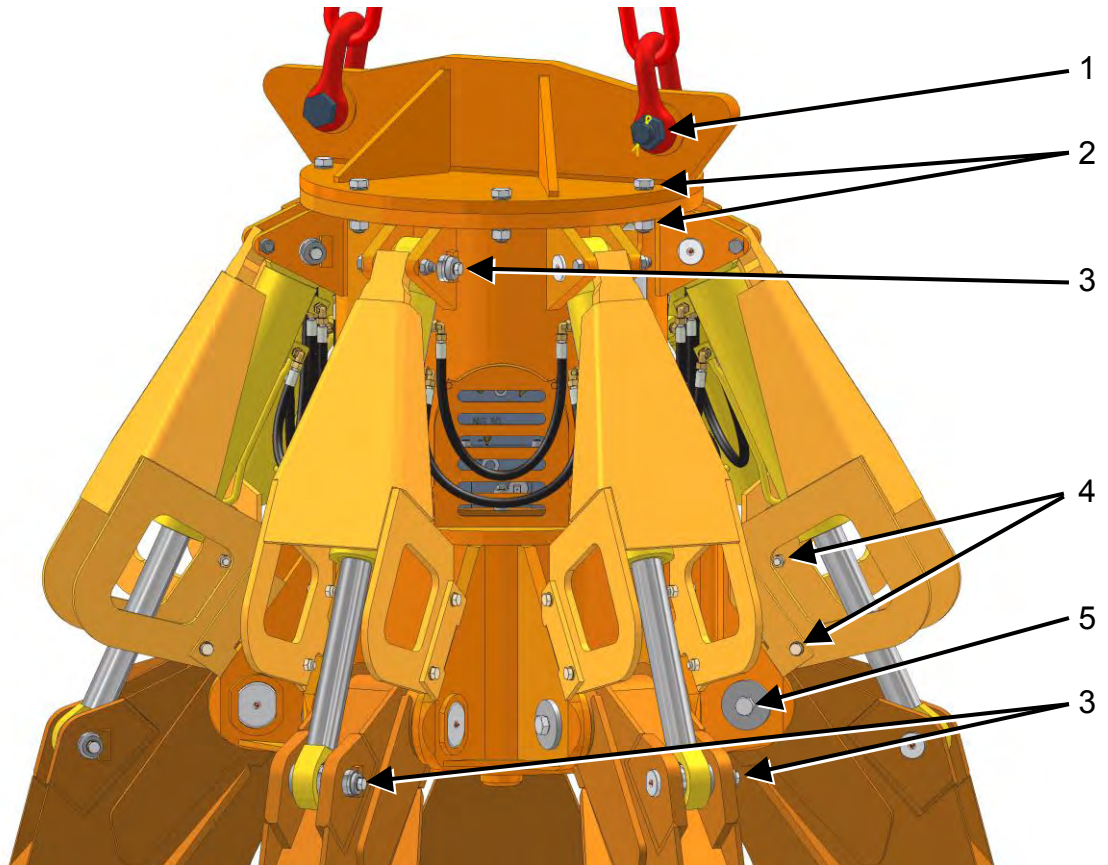

Figure 3.2.2c Pin locking devices on the grab
- ☐ Check the Pin locking devices (see Figure 3.2.2c)